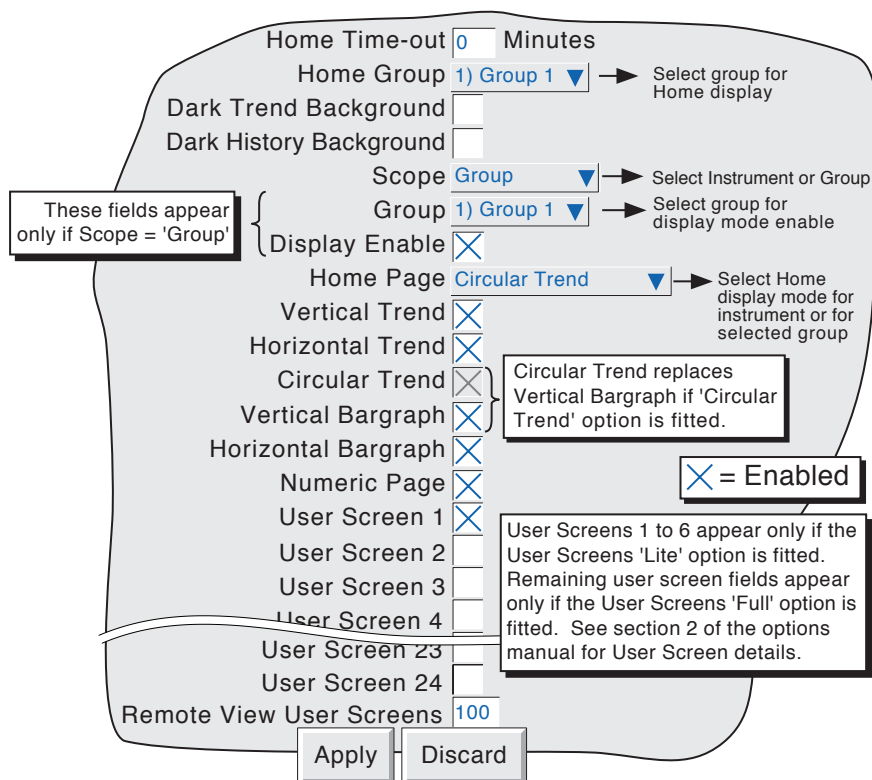

Figure 4.3.4a Views Configuration menu
- 1 If the Circular Trend option is fitted, this replaces Vertical Bargraph display mode. For illustrative purposes, figure 4.3.4a, above, shows both, but only one or the other may appear.